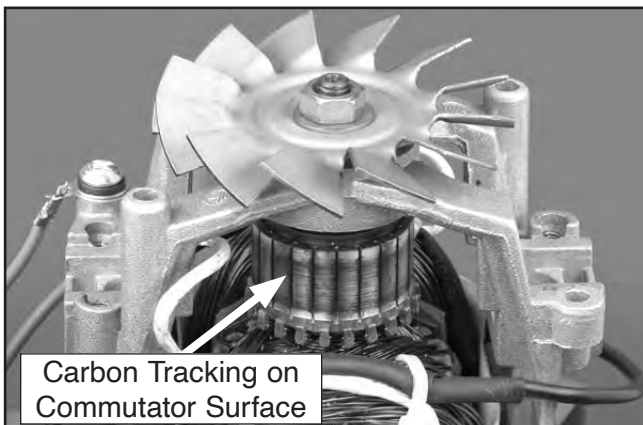

Figure 39. Commutator.
- Inspect commutator surface (see **Figure 39**).
—If the commutator only has minor wear and black-colored carbon tracking (see **Figure 39**), use a fine crocus cloth to polish the commutator where the brushes ride. DO NOT use emery cloth or sandpaper to clean the commutator or you will make it out-of-round, which will cause the new brushes to arc, overheat, and wear out quickly.